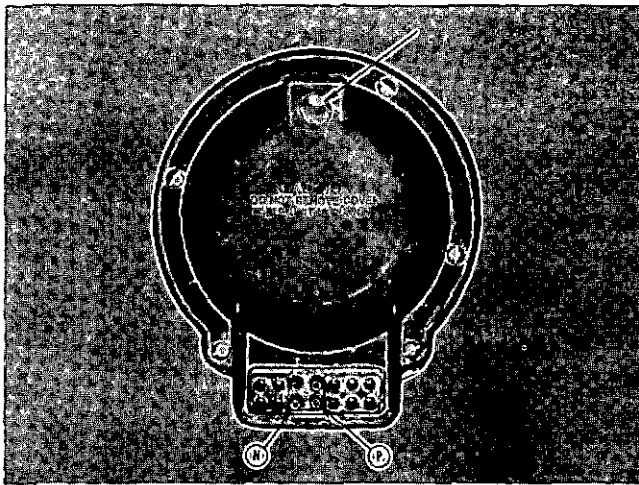

Fig. 14-1-115, NG25. Installing Mag-tronic generator
2. Rotate "Mag-tronic" drive until red rotor arm is centered in timing window, Fig. 14-1-115.